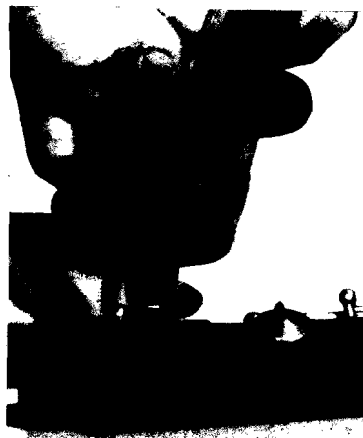

Figure 44
2. To remove a whole but weak spring, use the whole spring removing pliers (Figure 44).
- b) Remove the needle spring (Figure 44, page 91).